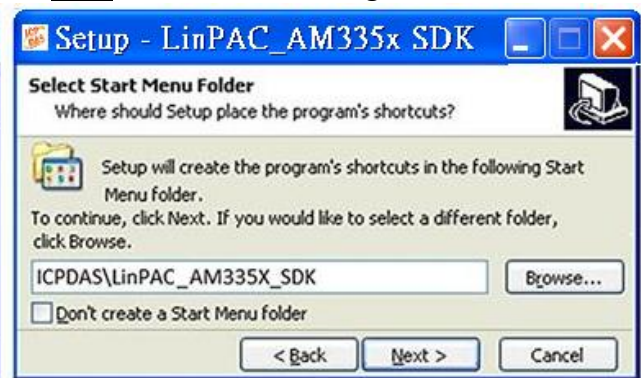

Fig. 3-10
4. Select Start Menu Folder option and then click the “Next” button, refer to Fig. 3-10.